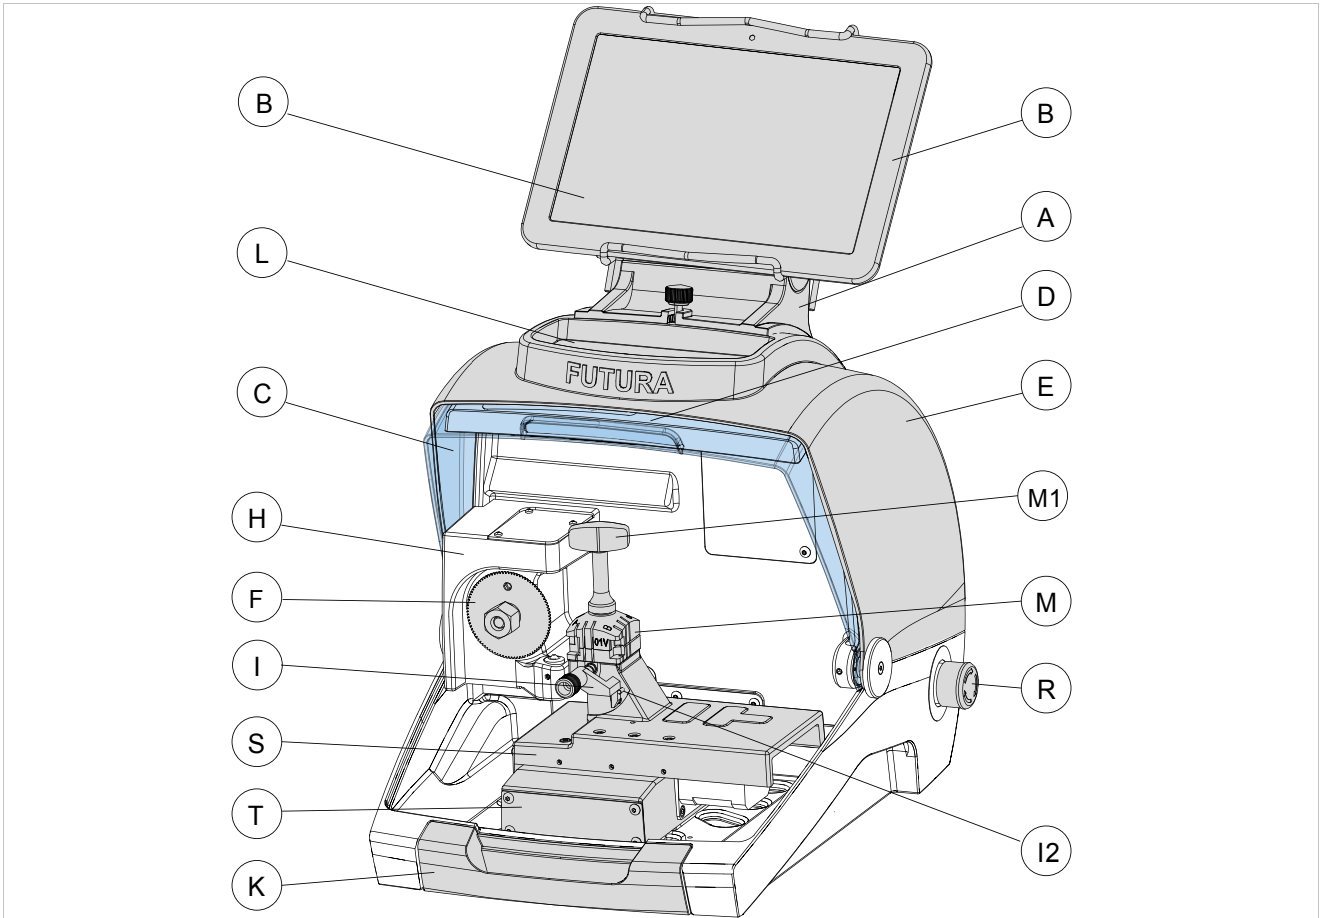

Fig. 4
Use the red emergency button (R) (Fig. 4), located on the right-hand side of the machine to stop the machine immediately in the event of serious malfunctioning or a hazard for the operator.